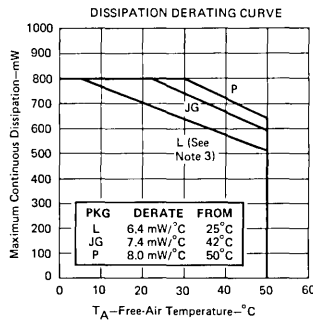

FIGURE 3
2. For operation above 25°C free-air temperature refer to Dissipation Derating Curve, Figure 3. This rating for the L package requires a heat sink that provides a thermal resistance from case to free-air,  $R_{\theta CA}$ , of not more than 105°C/W.